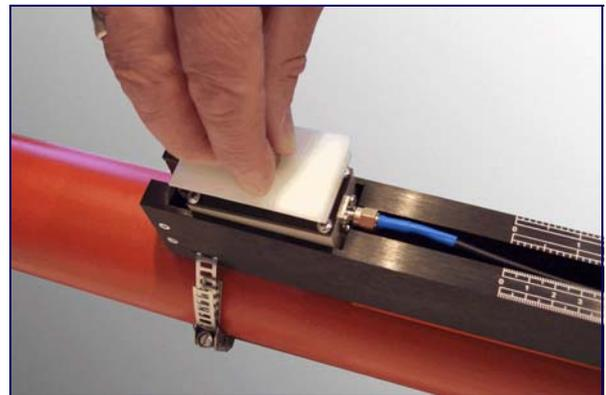

Figure 2.9
4. Connect the downstream cable (blue) to one of the transducers and lower the transducer and cable through the rectangular opening, as shown in Figure 2.9.